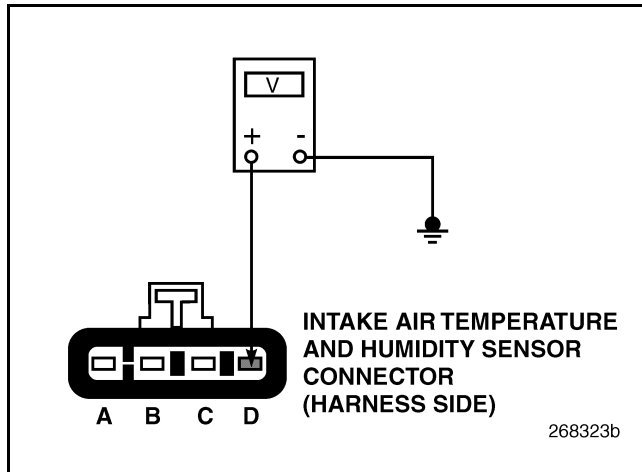

Figure 307
3. Measure the voltage between IATH Sensor harness connector pin D and a good ground (see Figure 307).